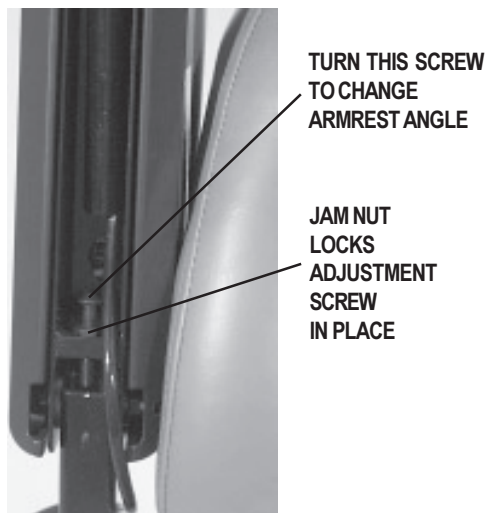

Figure 13. Armrest Angle Adjustment
You can increase or decrease the armrest angle to fit your specific needs. See figure 13.
2. Use a 7/16-in. wrench to loosen the jam nut. See figure 13.